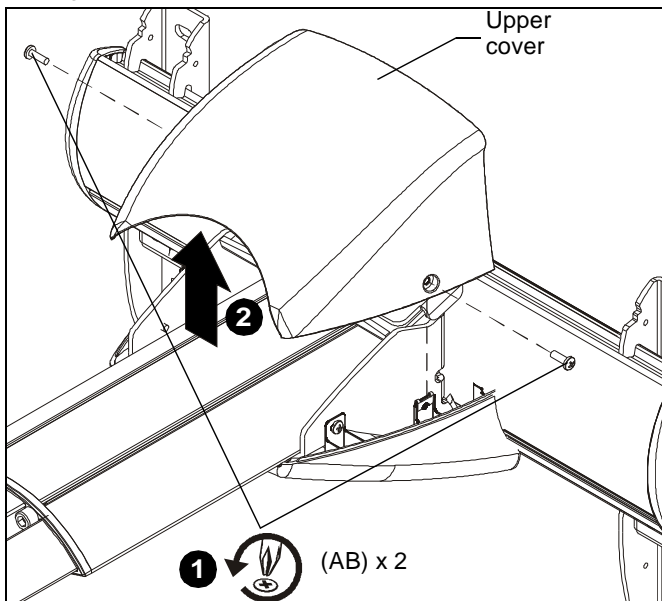

Figure 25
1. Remove and save two 8-32 x 3/8" Phillips pan head screws (AB) from upper cover. (See Figure 25)
2. Raise and remove the upper cover from the mount. (See Figure 25)